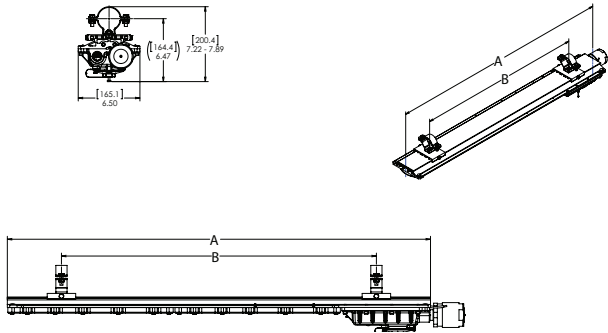

Figure 6. PM KIT – Pole Mount Installation
- Pole mount brackets may be spaced as required; for the four foot, it is required to keep them at least 18" (457mm) apart (see Figure 6) (see table for full mounting range).
- Slide the two (2) pole mount brackets onto the fixture, engaging the flange on the top of the fixture.